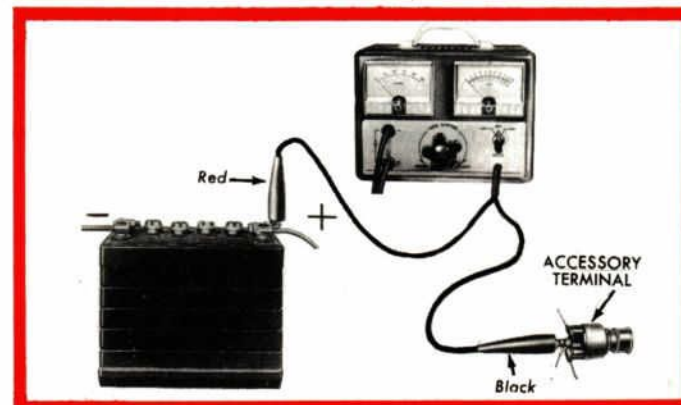

Figure 5—Ignition Switch Test
1. Connect the voltmeter leads as shown in Figure 5.